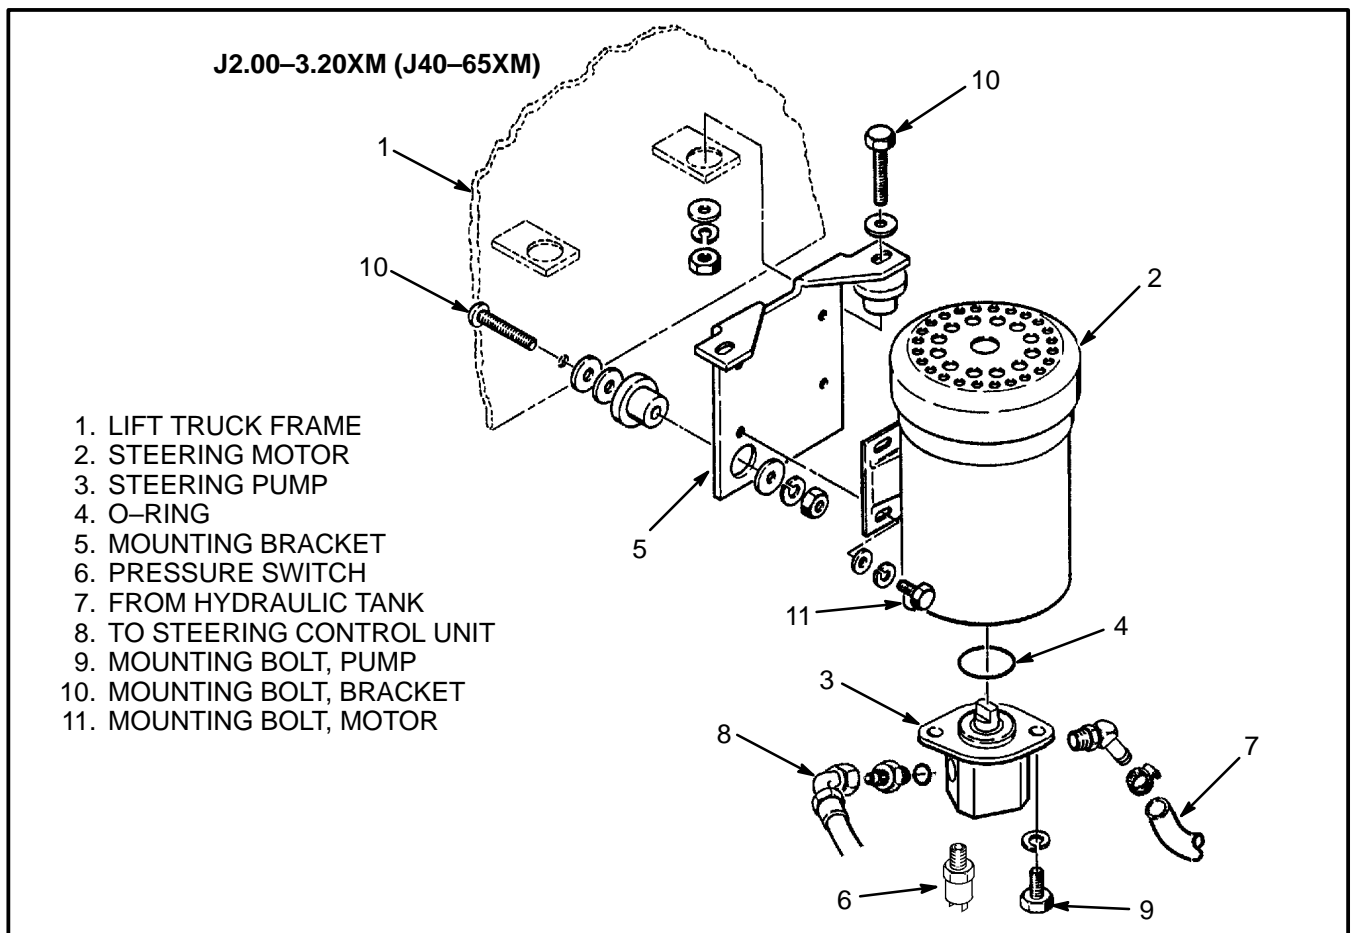

FIGURE 6. POWER STEERING MOTOR AND PUMP
(See FIGURE 6. and FIGURE 8.)**
11. Remove the capscrews that fasten the mounting bracket to the lift truck frame. See FIGURE 6.